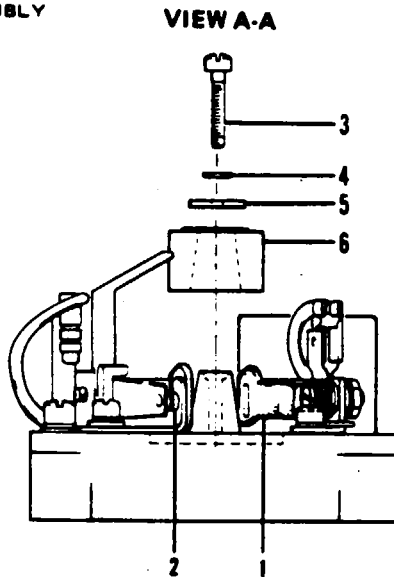

Figure 74-9. Cam End View of Magneto
13. If breaker timing is not correct, loosen cam securing screw (refer to Figure 74-9) and unseat main breaker cam from taper. Using 11-3031 Retaining Ring Pliers inserted in holes in cam, rotate main breaker cam in direction of rotation until left main breaker points just open and press cam onto taper. Tighten screw to seat main breaker cam.